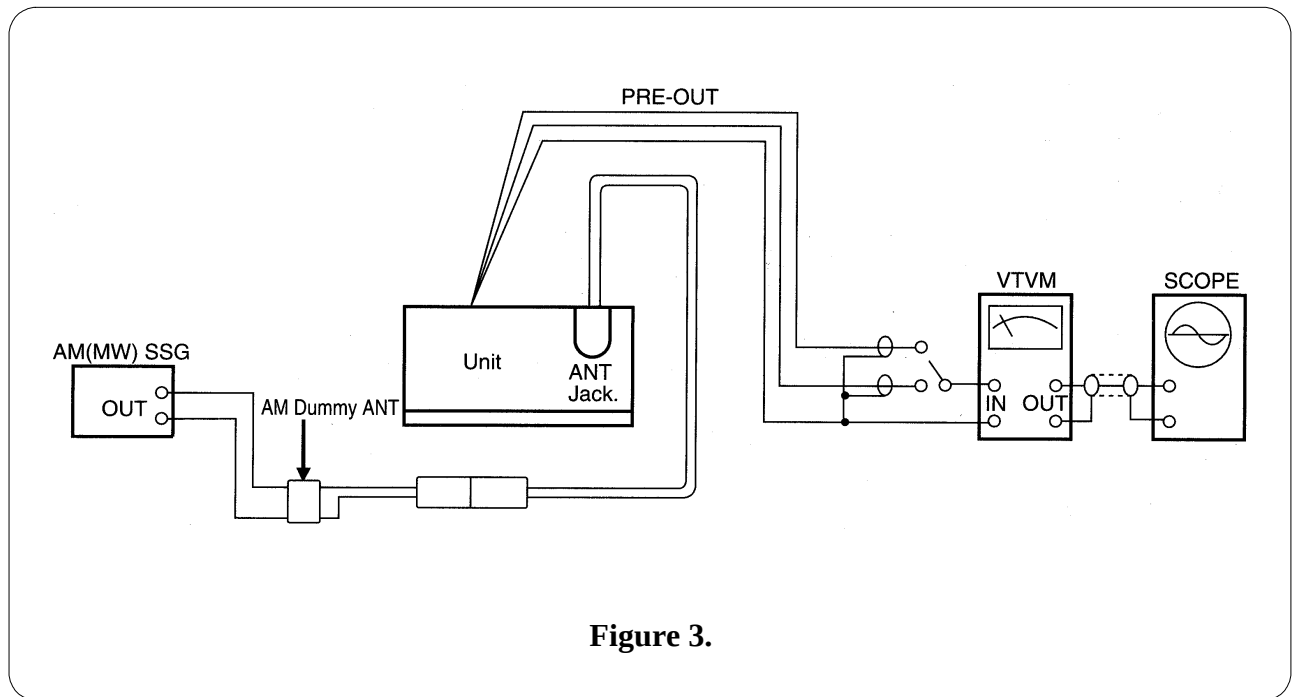

Figure 3.
2. Connect as shown in figure 3.